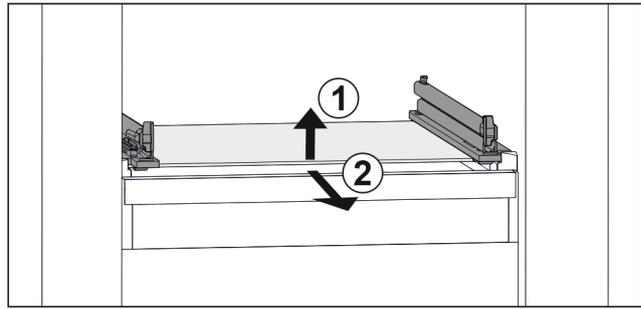

Fig. 129 Example illustration of glass shelf
- ▶ Lift glass shelf at the front. Fig. 129 (1)
- ▶ Remove glass shelf to the front. Fig. 129 (2)